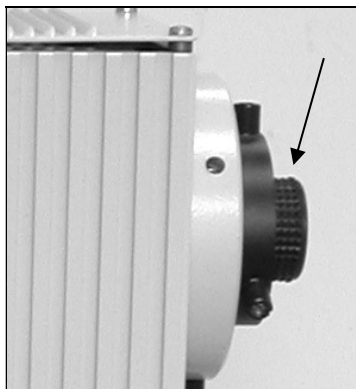
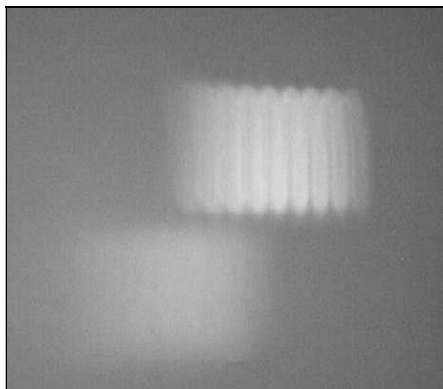
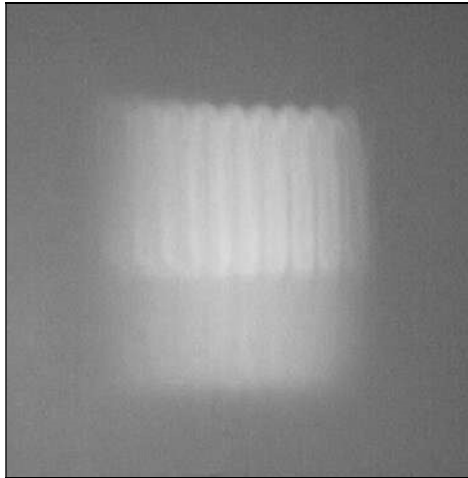

Fig. 17: Focusing ring.
Fig. 18: Same as Fig. 16, in focus.
Fig. 20: Image and mirror image of the filament, centered.
- Focus the mirror image of the filament (darker spot) with the focusing ring on the back of the lamphouse (Fig. 17) until you reach a situation as depicted in Fig. 18.
- Center the mirror image of the filament (darker spot in Fig. 18) with the centering keys to a position adjacent to the direct filament image (Fig. 20).